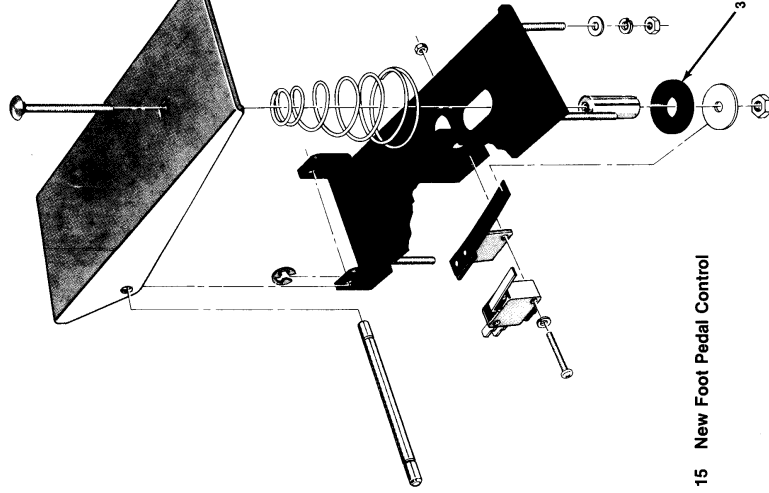

Figure 15 New Foot Pedal Control
Figure 15 shows the newest gas pedal assembly (introduced in early 1980). Notice that the microswitch activator has been changed to a spring, to prevent flexing sideways. This keeps the activator from slipping off the washer (3).